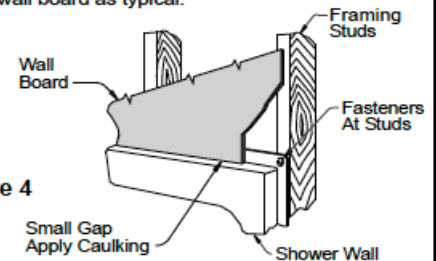

Figure 4
- 8.** Finish wall board as detailed in Figure 4.